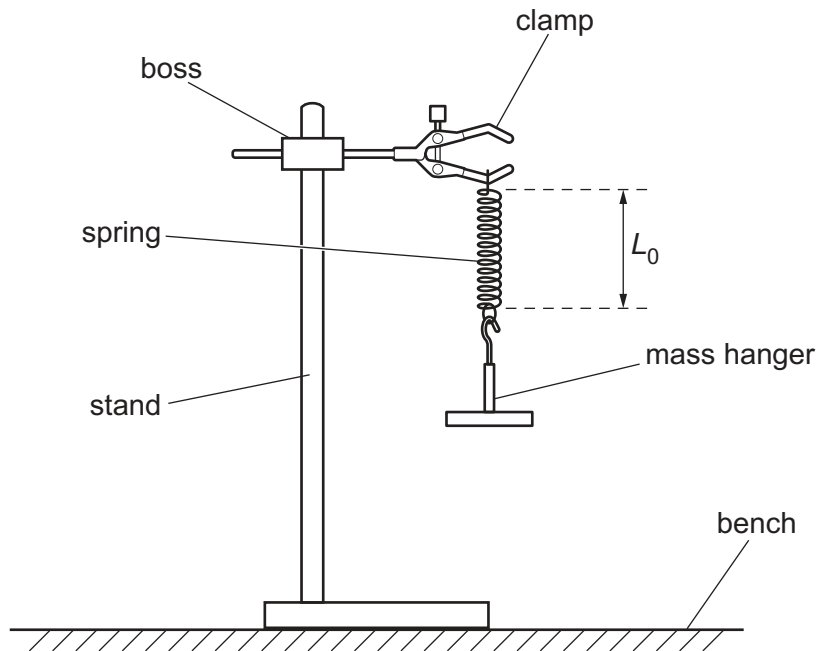

Fig. 2.1
• Suspend the mass hanger from the spring as shown in Fig. 2.1.